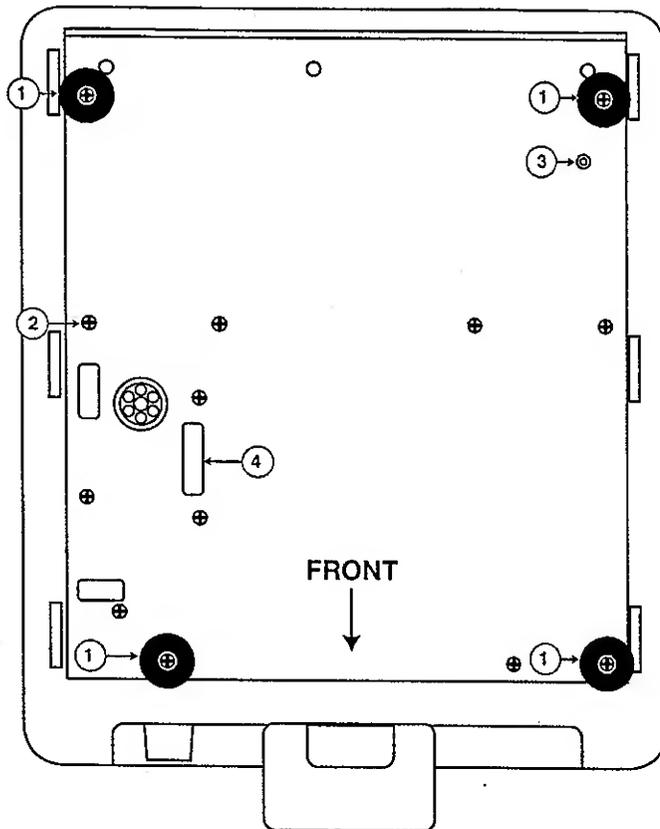
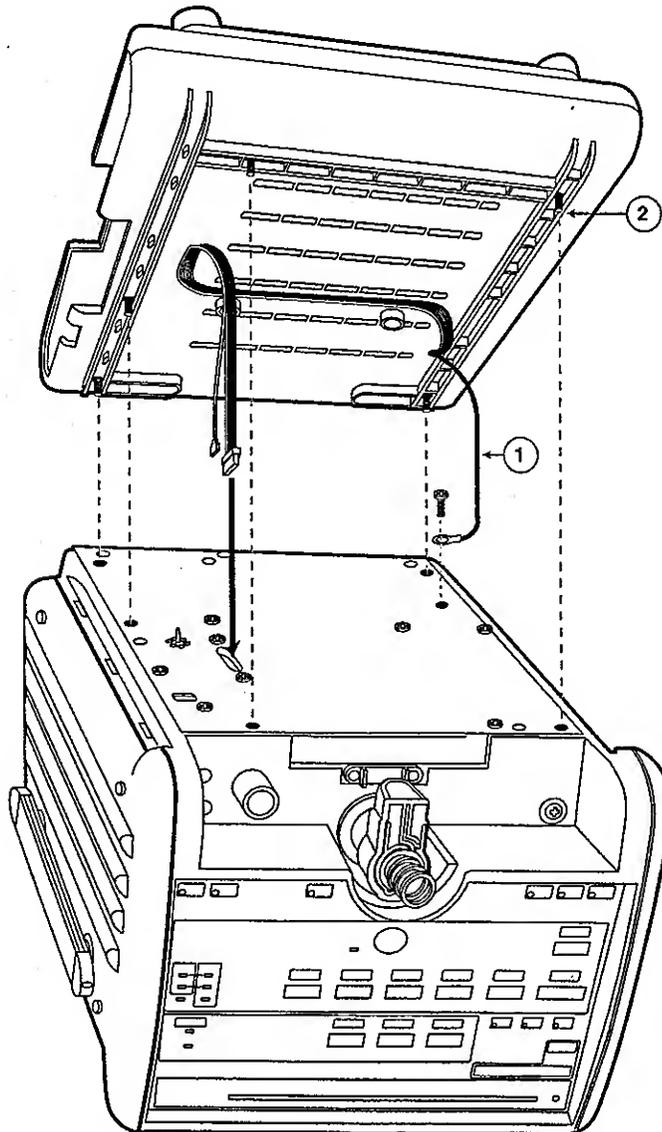

Figure 5-21. Ventilator Base
Figure 5-22. Docking Bay Assembly
- 3 Referring to Figure 5-21, remove the following from the base of the ventilator:
- Four (4) Rubber Bumpers—Ref. 1
- Two (2) Screws—Ref. 2 & 3
- 6 Using the screw provided, attach the green/yellow wire with the ring terminal to the nut insert indicated in Figure 5-22, Ref. 1.
- 8 Starting with the 8 position connector , pass the cables from the docking bay through the slot in the base of the ventilator indicated in Figure 5-22.
- 9 Referring to Figure 5-22, align the captive retaining screws Ref. 2 with the mounting inserts where the rubber feet and screw Figure 5-21, Ref 2 were removed and tighten with the Phillips screwdriver .